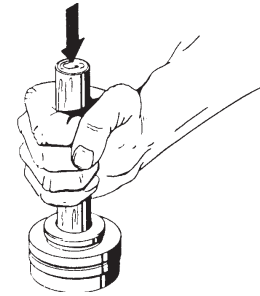

Figure 4-2
8. If the seal seat (#12.5) must be reused, use a wooden dowel sized to fit through the hole in the seal cup to tap it out.(refer to figure 4-2) Ceramic seal seats are particularly easy to damage. Normally, always replace the seats when servicing the pump.